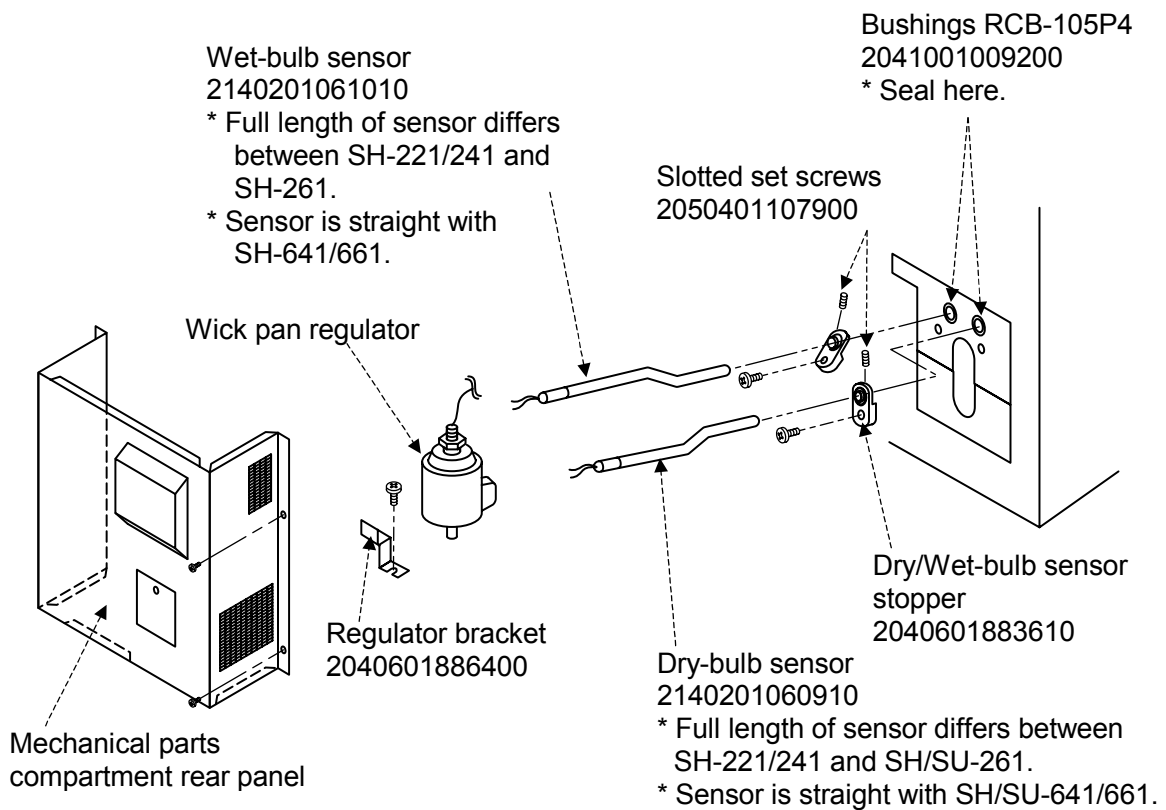

Fig. 5.31 Dry/Wet-bulb sensors seen from mechanical parts compartment
6. Remove the screws that lock down the mechanical parts compartment rear panel and detach the panel. (See Fig. 5.31.)